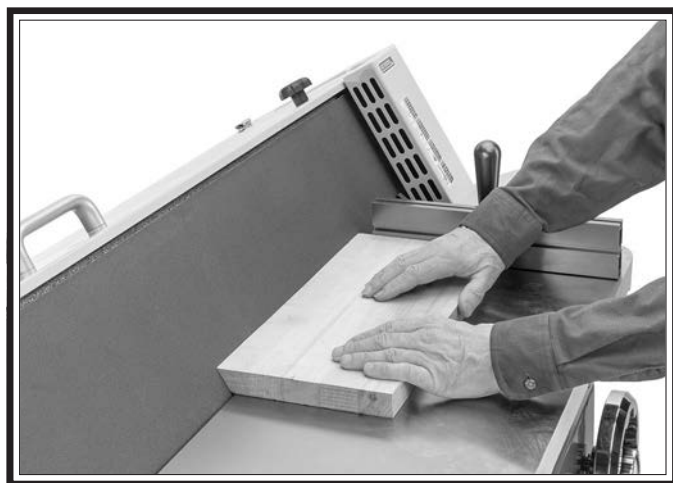

Figure 44. Typical bevel sanding operation.
5. Support workpiece with table (and miter stop if operation allows), and slowly feed workpiece into moving sanding belt with light, even pressure (see **Figure 44**). **DO NOT** force workpiece against sanding belt.